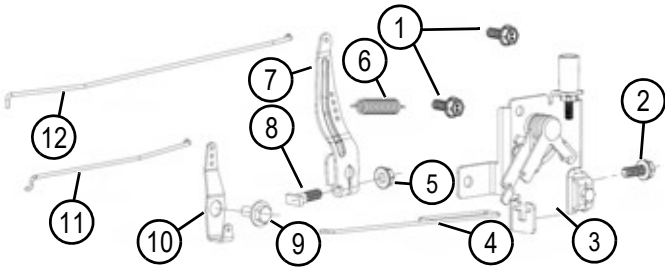

Figure 4-6: Control Lever Assembly
- 2. See Figure 4-6. Place one meter lead on the spark plug lead, and one on the coil ground as shown. Be certain grounding point is clean in order to obtain an accurate reading